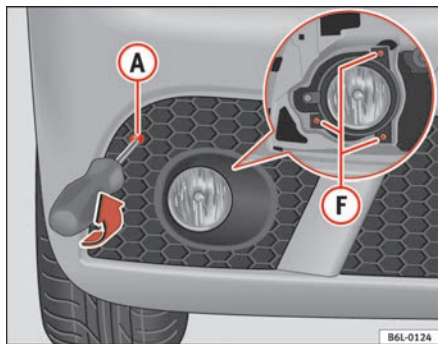

Fig. 158 Fog lights
- Undo the two fastening bolts (F) ⇒ fig. 158 and when released unplug the connector.
- Remove the grille, taking out the bolt (A) ⇒ fig. 158, carefully pull the grille on the side of the screw and release the cover.